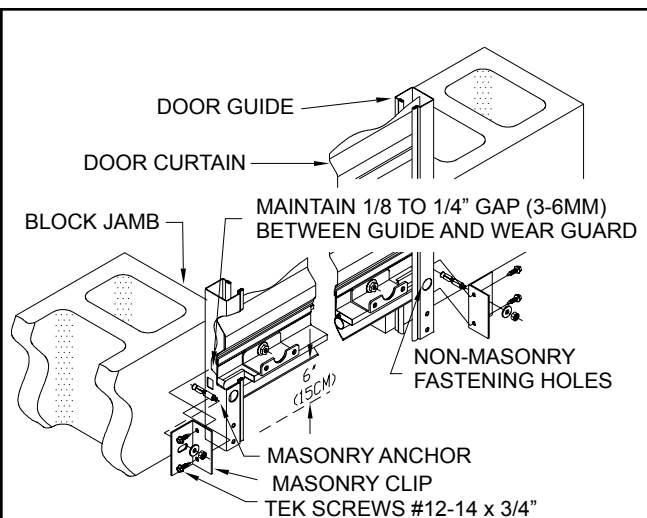

Figure 8
7.1 Pull the door down to within 6" of the floor (See Figure 8). Adjust the door guides so there is 1/8" to 1/4" of play side to side. If the clearance is too small the door will be hard to operate. Too much clearance will allow the door to move side to side excessively and may cause the door to bind.
7.2c For masonry jambs, install masonry clips along the guide height, using one clip located next to each mounting hole on the guide. Make sure the clips are flush with the back of the guide. Attach each clip to the guide with two (2) small (#12-14 x 3/4") supplied Tek screws (See Figure 8). Drill a hole in the masonry and fasten the clip in place using supplied anchors.